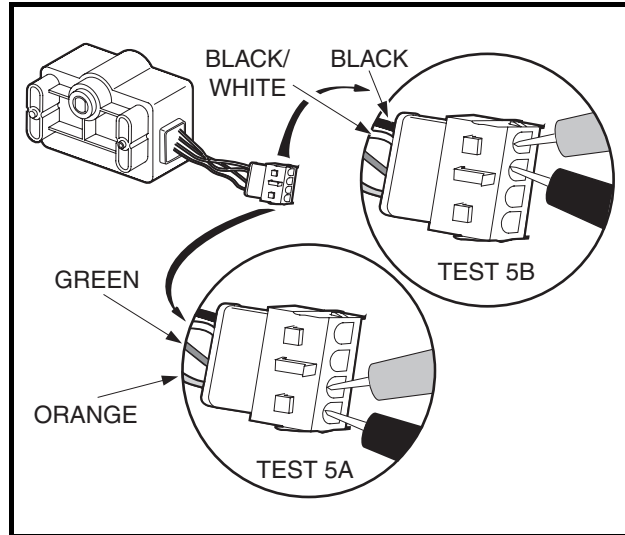

Figure 11-14 GCOR
3. Set the multimeter to 200 ohms. Separate the electrical connector and place the red (+) probe on the green wire pin of the limit switch and place the black (–) probe on the orange wire pin of the limit switch (Figure 11-14, Page 11-18).
4. With accelerator pedal in fully raised position, there should be continuity. With accelerator pedal pressed, there should be no continuity. If either reading is incorrect, replace the GCOR (**Figure 11-14, Page 11-18**).